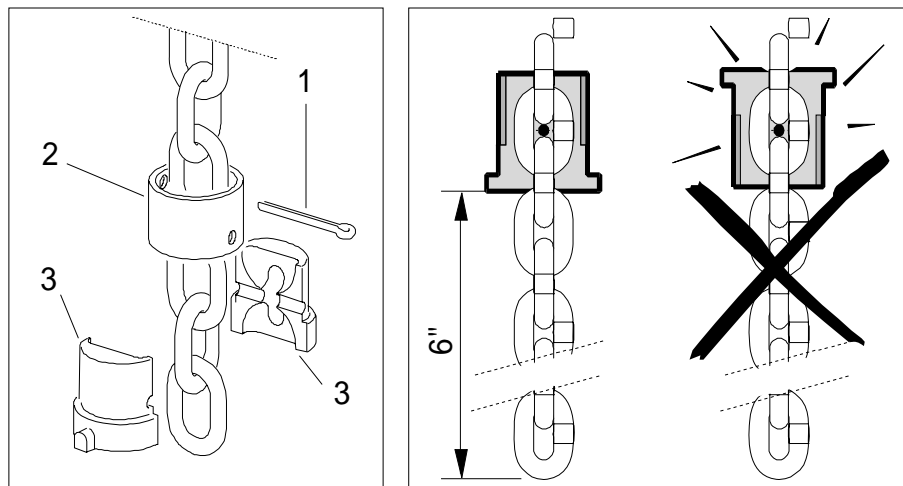

FIGURE 5.7
6. Attach fall stop 6.0 inches [150 mm] from end of chain (chain container side). See Figure 5.7 for details.
### 5.12 Removing Fall Stop (Figure 5.7)
### 5.13 Installing Fall Stop (Figure 5.7)